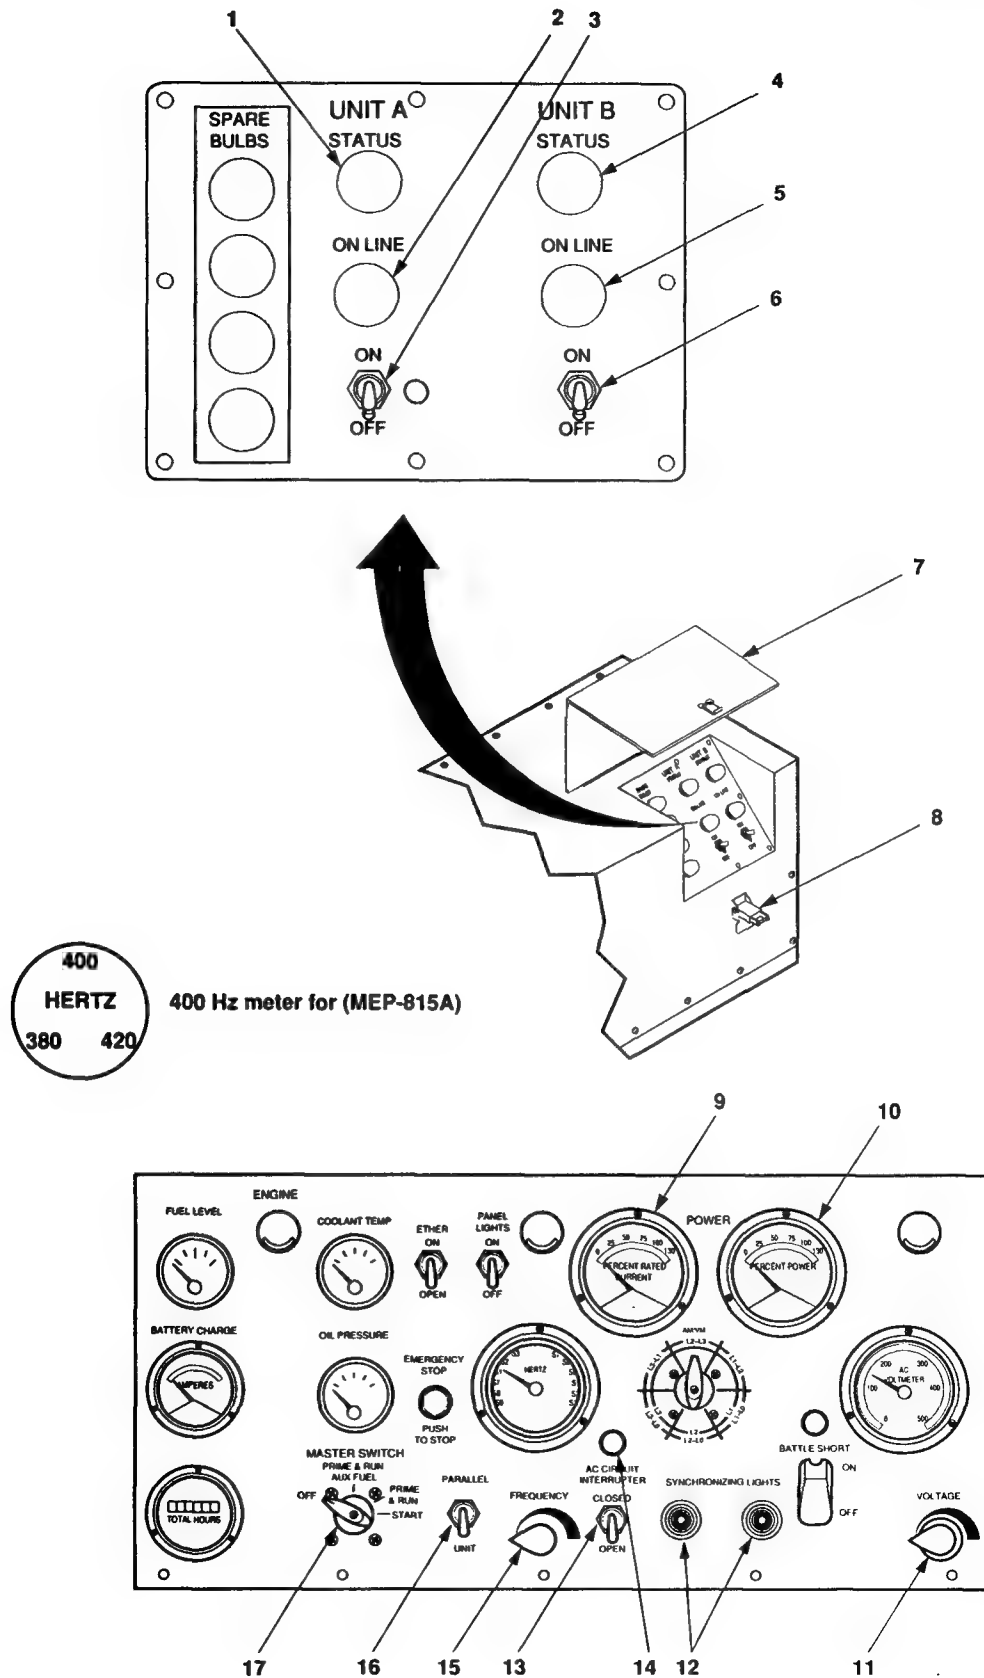

Figure 2-9. Load Transfer Operation.
- c. On operating generator set (generator 1), set UNIT-PARALLEL switch (16, figure 2-9) to PARALLEL.
- (1) Set UNIT-PARALLEL switch (16) to PARALLEL. Both SYNCHRONIZING LIGHTS (12) should be going bright to dark together.